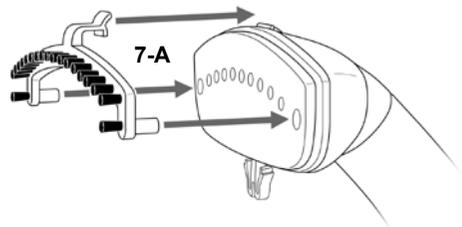

FIGURE 7
2. Align Fabric Brush with Steam Nozzle as shown (FIGURE 7).
3. Press Fabric Brush firmly onto Steam Nozzle. The two pegs will fit into the two larger holes on face of the nozzle, while latch fits over top of the nozzle (FIGURE 7-A).